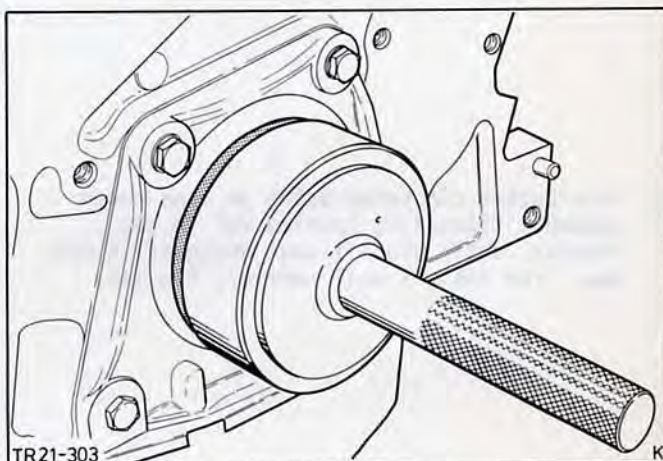

Fig.116. Install oil seal with special tool 21-011-B.
4. Slide the new oil seal onto special tool 21-011-B as far as the stop (if necessary, turn the seal to obtain satisfactory seating). Moisten crankshaft with engine oil and fit the seal, Fig.116.